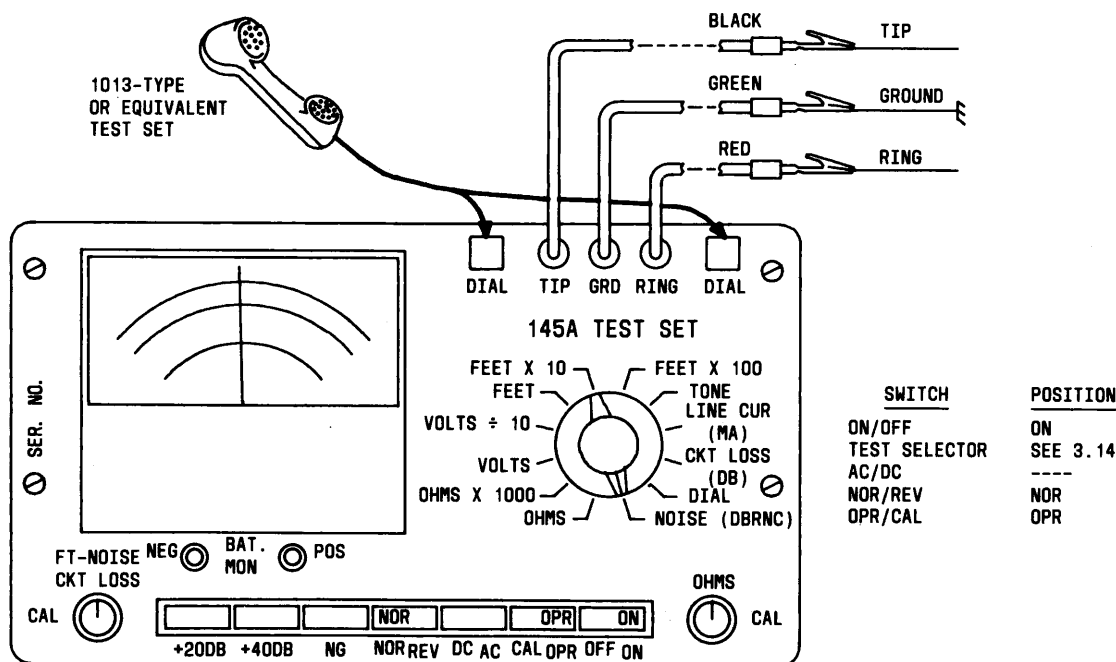

Fig. 10—Metallic Noise Measurement
3.14 Metallic Noise Measurement (Fig. 10): This test measures metallic (tip to ring) noise of subscriber loops.